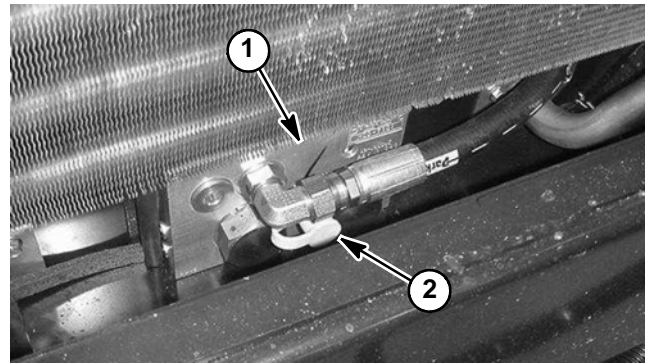

Figure 32
3. Connect a 1000 PSI (70 bar) pressure gauge to test port on 4WD control manifold under radiator (Fig. 32).